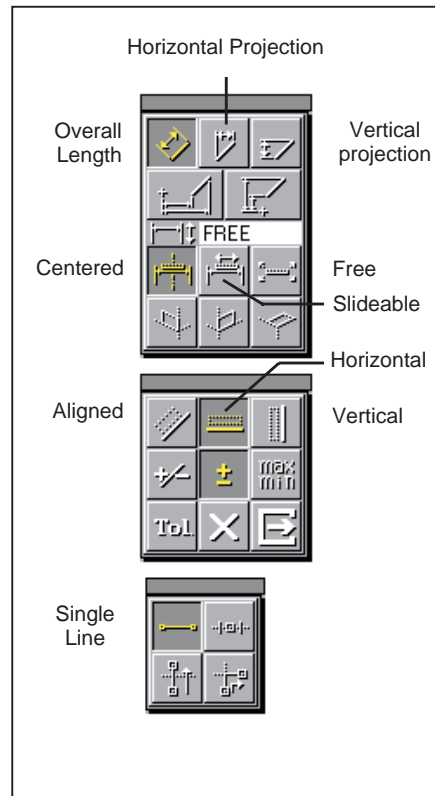

Figure 7-4: Dimension:Distance palette
- [] Select Line from the Dimension menu; touch the overall length, horizontal label, centered label, and single line icons, as in Figure 7-4.